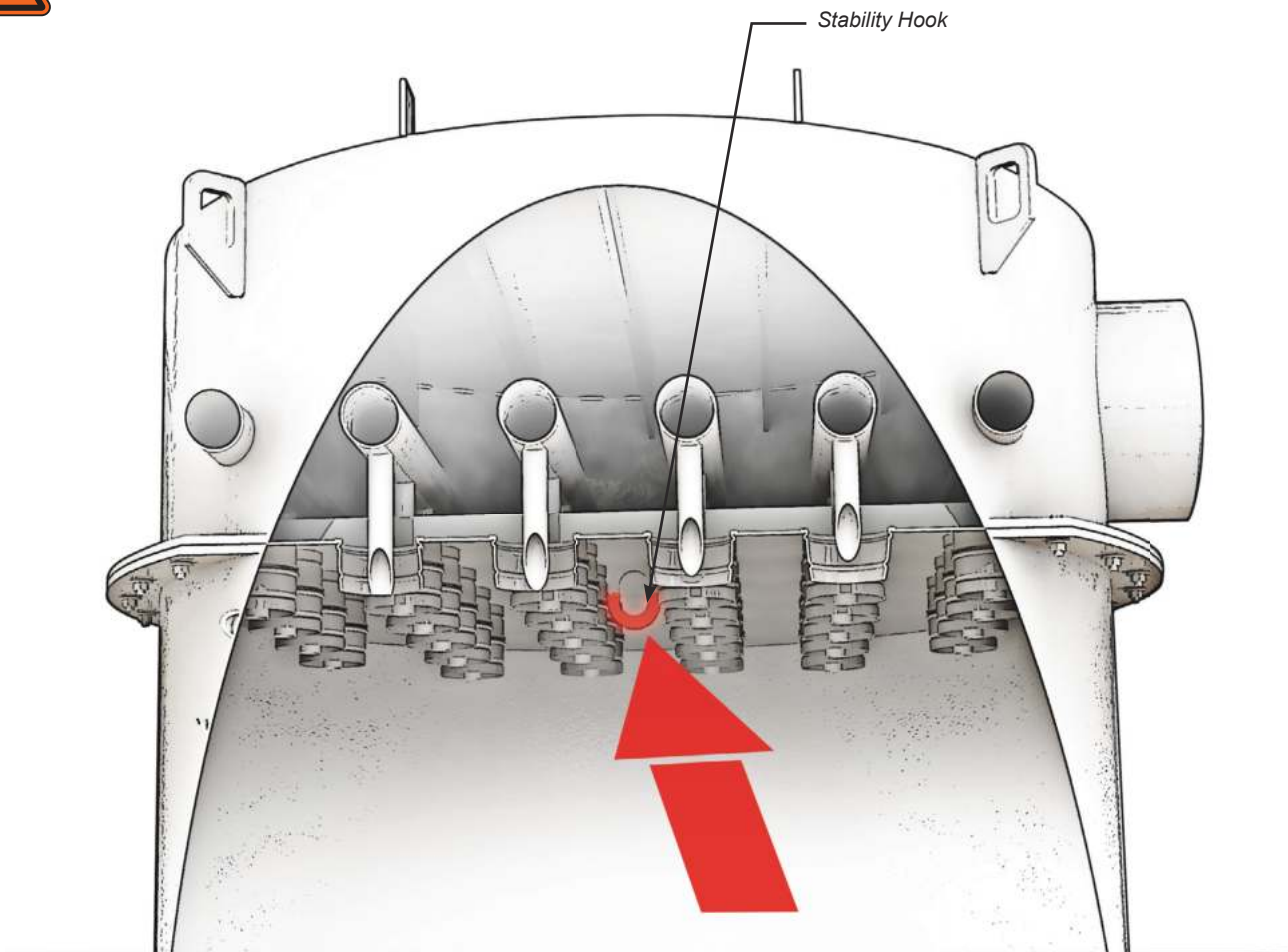

FIGURE 4
**NOTICE:** A hook is located on the bottom of the tube sheet that may be used to provide additional balance and stability when accessing the dirty air chamber (see Figure 4).